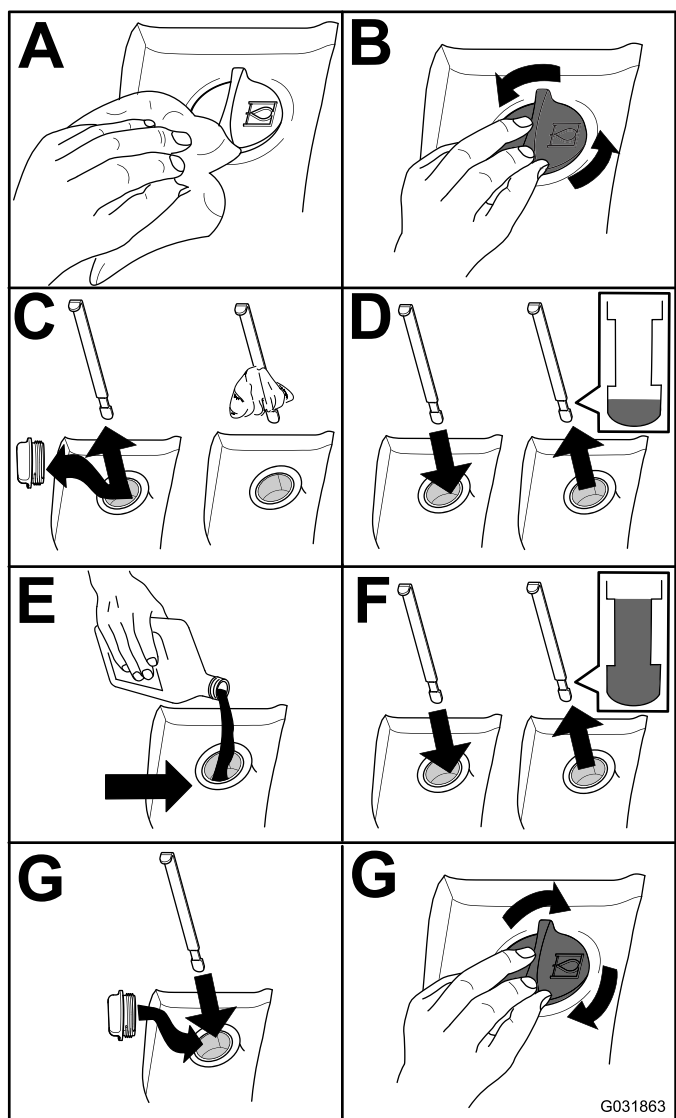

Figure 78
2. Check the hydraulic-fluid level (Figure 78).